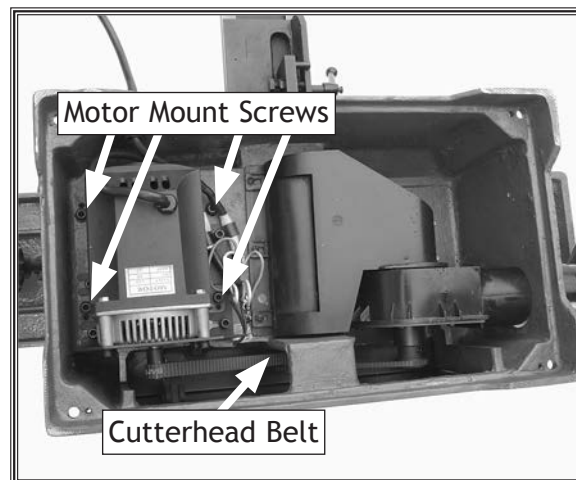

Figure 49. Motor mounting screws and belt locations.
5. Loosen the four motor mounting cap screws (see **Figure 49**), but do not remove them.